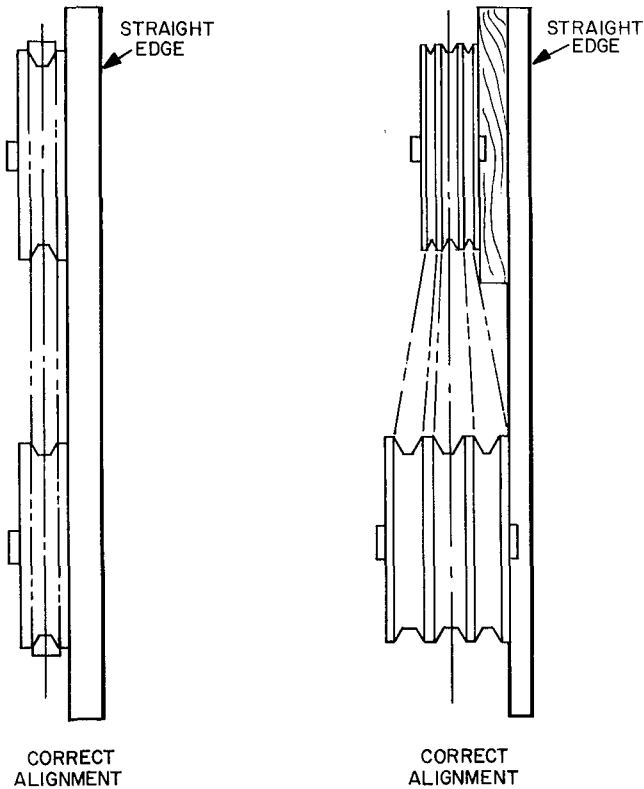

Fig. 3 - Sheave Alignment
4. Replace sheave in reverse order. Tighten allen setscrew securely. Lightly grease motor shaft before replacing sheave. Remove all dirt and burrs from motor shaft end and key. Check alignment of fan motor sheave with fan shaft sheave. Correct by loosening motor hold-down bolts and shifting motor as required. Tighten motor hold-down bolts securely. Refer to Fig. 3.
5. Replace sheave in reverse order. Tighten locking screws securely. Lightly grease fan shaft end before replacing sheave. Remove all dirt and burrs from fan shaft end. Check alignment of fan motor sheave with fan shaft sheave. Correct by loosening motor hold-down bolts and shifting motor as required. Tighten motor hold-down bolts securely. Refer to Fig. 3.